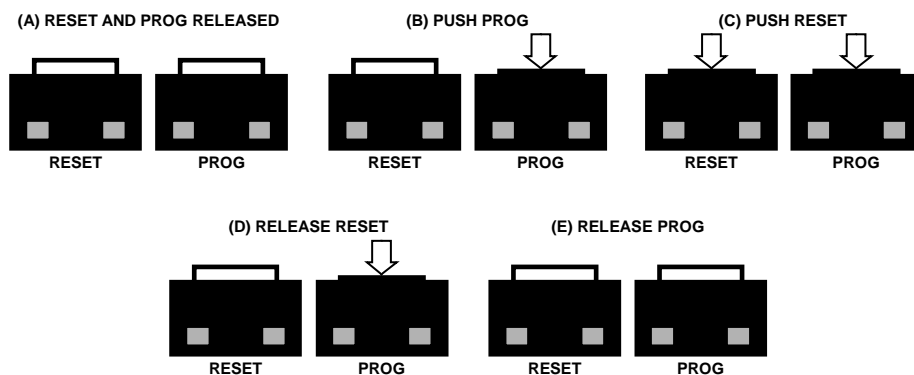

Figure 2. Entering Serial Download Mode to Reprogram the Board
To enter serial download mode, the user must hold the P0.0/BM pin low while reset is toggled. On the development board, serial download mode can be easily initiated by holding down the serial download push button (PROG) while inserting and releasing the reset button (RESET), as illustrated in Figure 2.
6. In the ARMWSD window, click **Start**. The Status frame then prompts users to **Press Download and pulse Reset on Hardware**. Follow the illustrations in Figure 2.